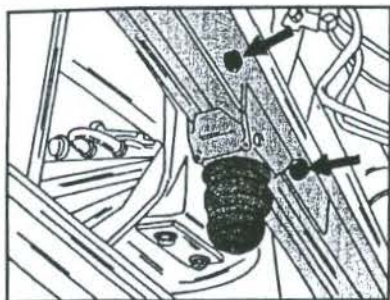

Fig. 1.6 – The attachment of the engine crossmember.
- Remove the transmission mounting from the crossmember (see Fig. 1.6).